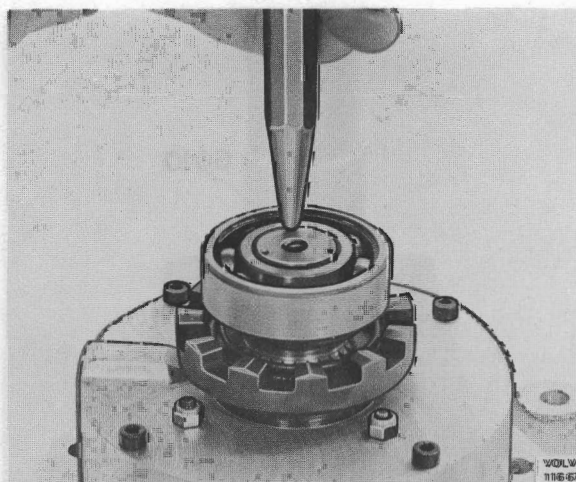

Fig. 48-27. Peening the bearing
10. Press on the support bearing andpeen it with three punch pops, see Fig. 48-27.